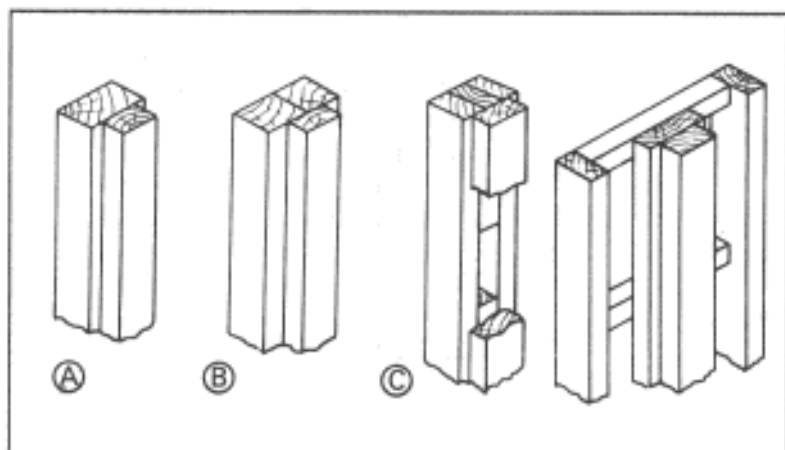

Figure 6-33. T-Post construction
post and is made in any of the following ways (Figure 6-33):
- A 2 x 4 may be nailed and centered on the face side of a 4 x 6 (Figure 6-33, A).
- A 2 x 4 may be nailed and centered on two 4 x 4s nailed together (Figure 6-33, B).
- Two 2 x 4s may be nailed together with a block between them and a 2 x 4 centered on the wide side (Figure 6-33, C).
- A 2 x 4 may be nailed and centered on the face side of a 2 x 6, with a horizontal bridging nailed behind them to give support and stiffness (Figure 6-33, D).